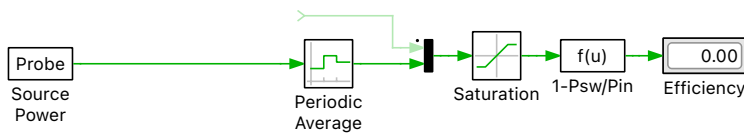

Figure 4: Calculating the converter efficiency using the input power and total device losses
- 1 Place an additional Probe, Periodic Average, and Multiplexer block into the schematic near the Switch Loss Calculator block. Probe the input power of the converter by monitoring the power signal of the DC Voltage Source. The **Averaging time** of this block should also be 0.05 ms. Using the Multiplexer, combine the source power measurement and total loss calculation of the switching cell into a single bus with a width of 2 signals, as shown in Figure 4. As an optional step, add a Saturation block with a **Lower limit** of 1 and an **Upper limit** of inf, which ensures that there are no “Division by zero” issues at the beginning of the simulation.